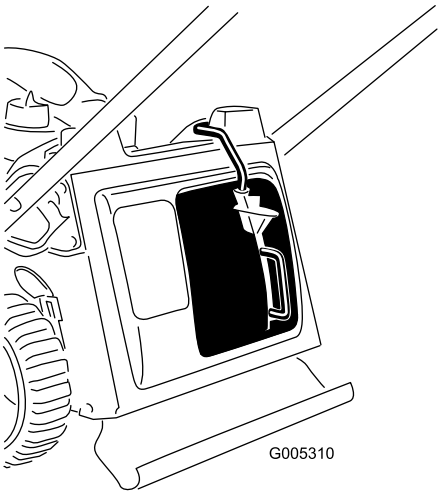

**Figure 9**
2. Squeeze the button on the lever with your thumb, and fully insert the mulch plug into the opening (Figure 9).